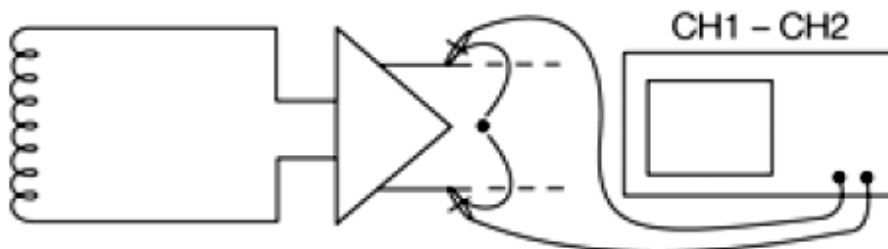

Figure 3 Measuring by two probes and calculating using the Mathematical operation function of the oscilloscope
- ✦ **Measuring by two probes and calculating using the Mathematical operation function of the oscilloscope. Refer to Figure 3**